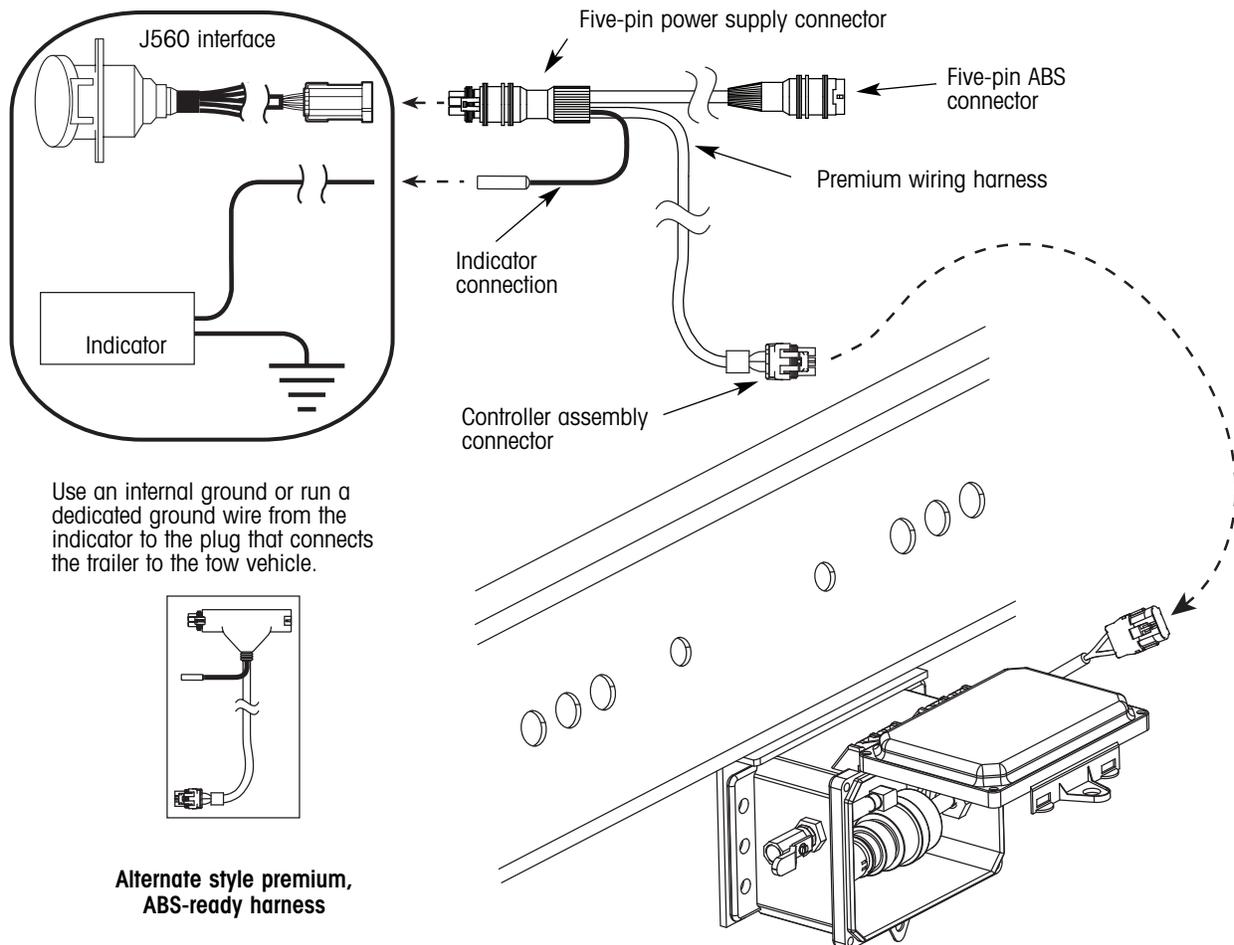

Figure 36. Premium wiring harness replacement
1. Disconnect the five-pin ABS connector (figure 36).